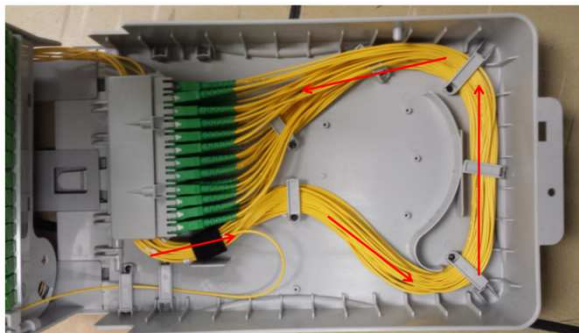

Figure 27 – Routing into the Parking Holder
- 1.6.5 Attach the fibers with velcrop. Route the adapter to the parking holder following the path shown in Figure 27.